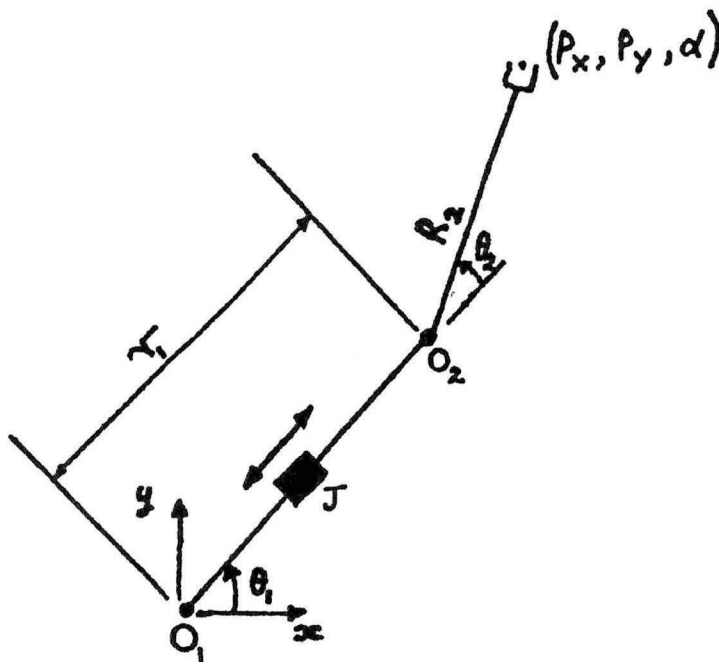

Figure Q2
- (b) A three degree of freedom planar manipulator with two rotary joints (O_1 and O_2) and a translatory joint (J) is shown in **Figure Q2**. R_2 has a constant length of 5 units and r_1 has a variable length. Derive the forward kinematic equations for the manipulator.